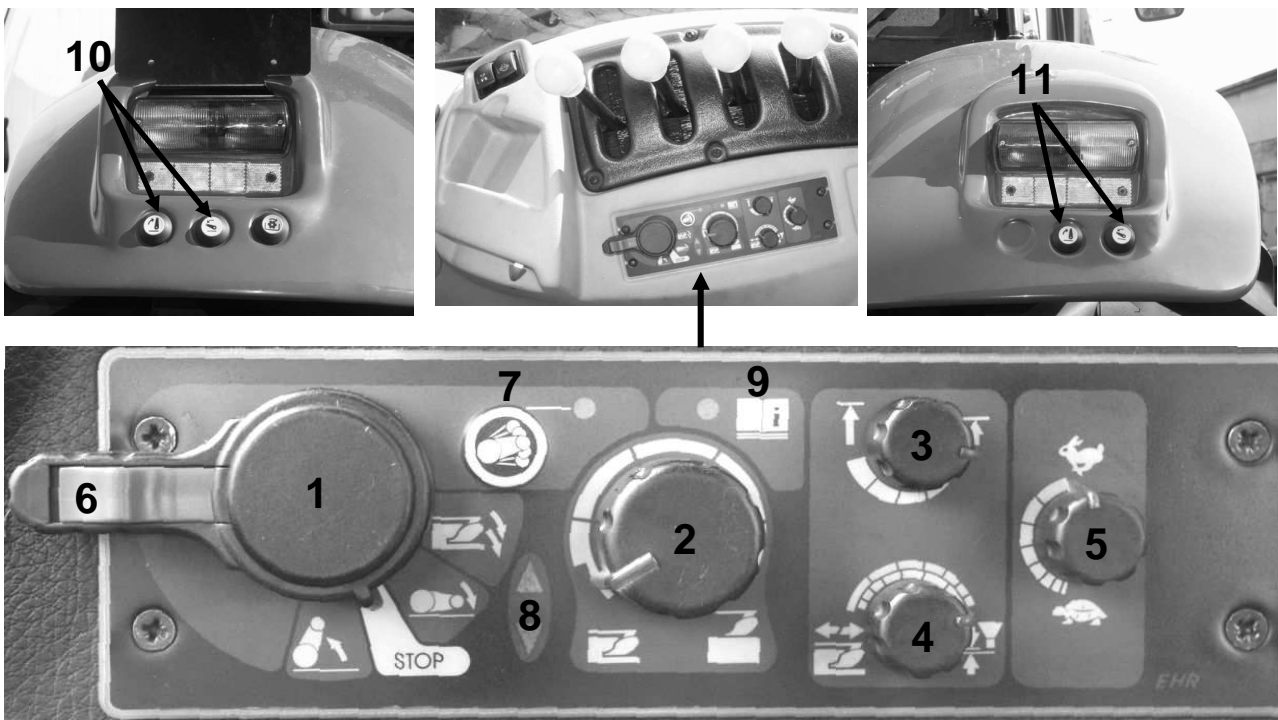

Figure 5-20 EHR electrohydraulic control system panel.
Control of the rear three point lift with the electrohydraulic system is with the aid of the control pulpit (Figure 5-20) located on the right side of the seat and additional arm lift and lower buttons on the rear of the mudguards on right and left sides of tractor (Figure 5-20, item 10) (they are used during linking machines and agricultural implements).
- using dial **4** (Figure 5-20) - depending on the type of fieldwork, determine the means of implement regulation (position, power or mixture);
ATTENTION: Do NOT use tractor in the event of hydraulic pump malfunction, if the light 8 (Figure 5-20) is not extinguished after lifting implement.
- lever 1 (Figure 5-20) set in position "lifting" (then implement is raised to the extreme upper setting) and button 6 to lock implement in transport position;
ATTENTION: Vibration suppression function acts only by setting of lever 1 (Figure 5-20) in "lifting" setting in transport position with button 6. During fieldwork (ploughing, cultivation etc.) vibration suppression function should be switched off.